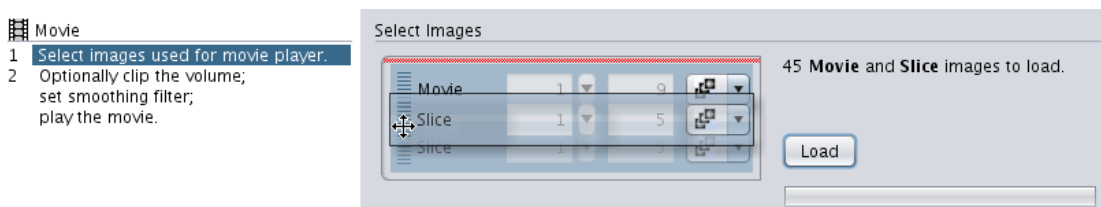

Figure 1.127: Change the Category Order
2. To change the order of the image categories in the movie, click the category panel on the very left and drag it to the desired position (see [Figure 1.127 \[p. 149\]](#)). The category at the top is the “fastest”, i.e., it is traversed first in the movie.